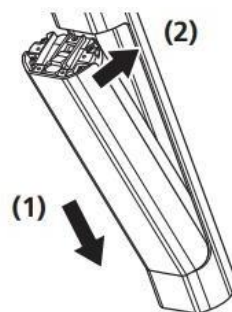

Figure 5.3
1. To install the battery from the bottom, use the procedure below. Figure 5.3